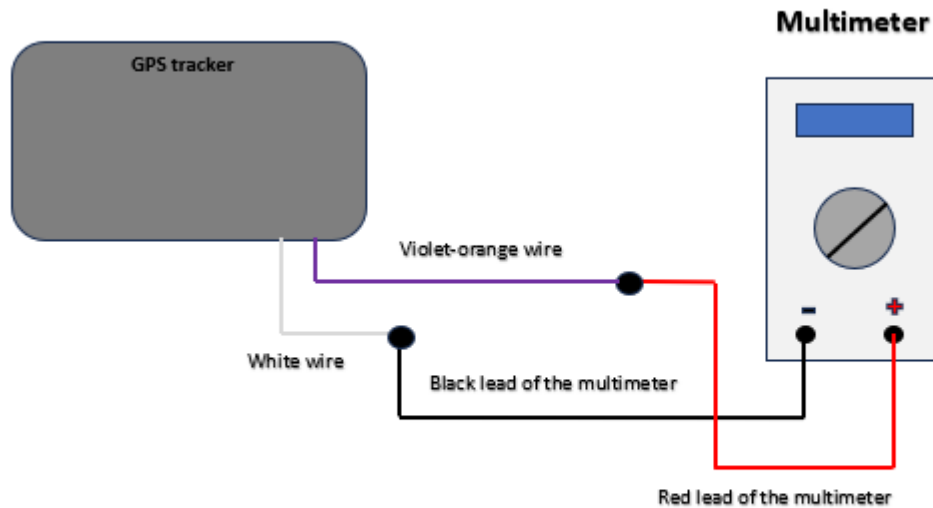

Fig. 11 Connection Diagram
2. Assemble the connection circuit according to "Fig. 11 Connection Diagram."